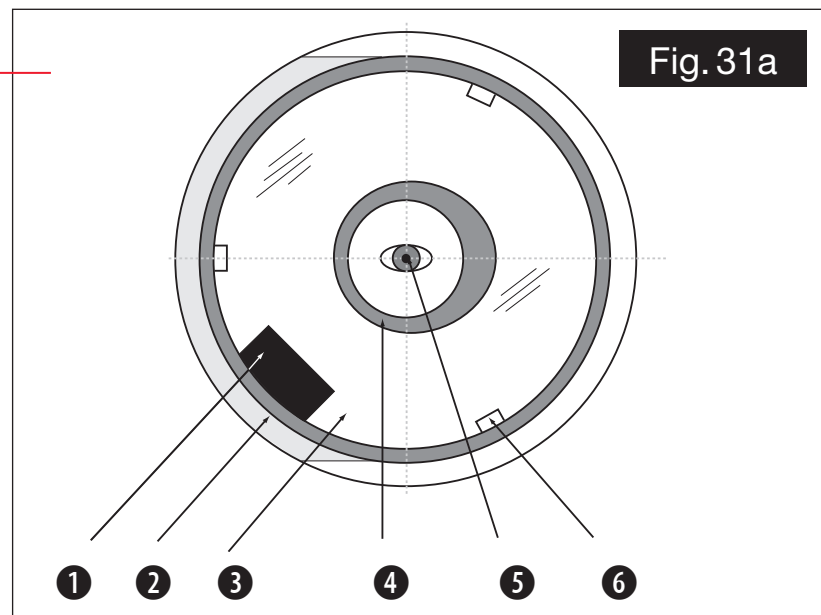
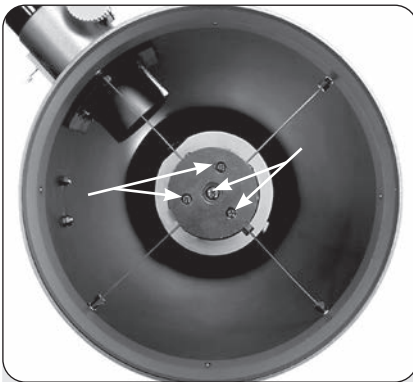

Fig. 31a
Fig 31b: The four collimation screws on the secondary mirror housing
Fig. 31a shows a correctly collimated Newtonian telescope, as it appears when viewed through the focuser with the eyepiece removed.
1. Observe through the focuser and orient your body so that the telescope's primary mirror is to your right. The diagonal mirror will appear centered as shown (2, Fig. 31a). If the diagonal appears off center, then adjust the 4 collimation screws on the plastic diagonal mirror housing.
2. If the reflection of the primary mirror (3, Fig. 31a) is not centered on the surface of the diagonal mirror, adjust the 4 collimation screws on the plastic diagonal mirror housing to center the reflection. As described above, the 4 collimation screws (Fig. 31b) on the plastic diagonal mirror housing are used for two different adjustments during the collimation procedure.